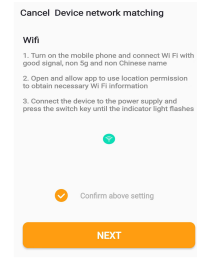

Figure 11
- (4). Follow the prompts to the next step (Figure 11)